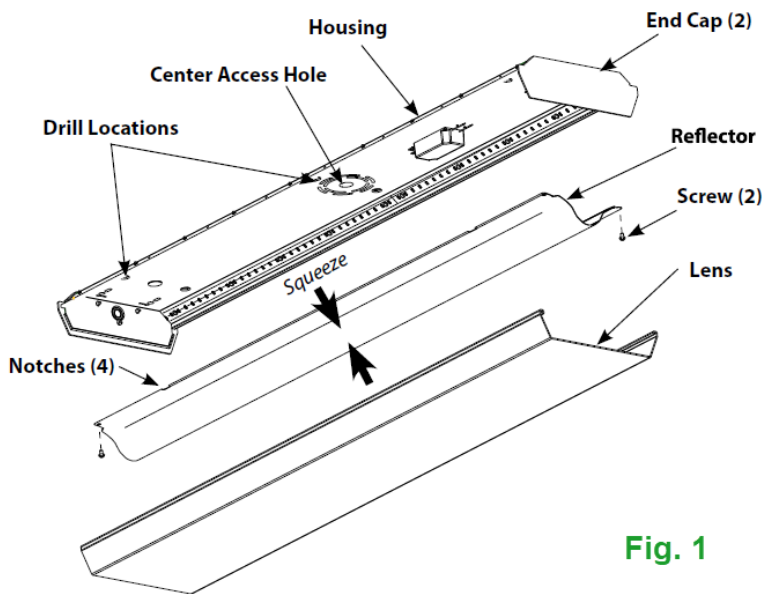

Fig. 1
- c. Pull the supply wires from the junction box (not supplied) through the center access hole of the housing as shown in **Fig. 1**. Use the appropriate UL approved wire connectors as required by code to make electrical splices to fixture leads.